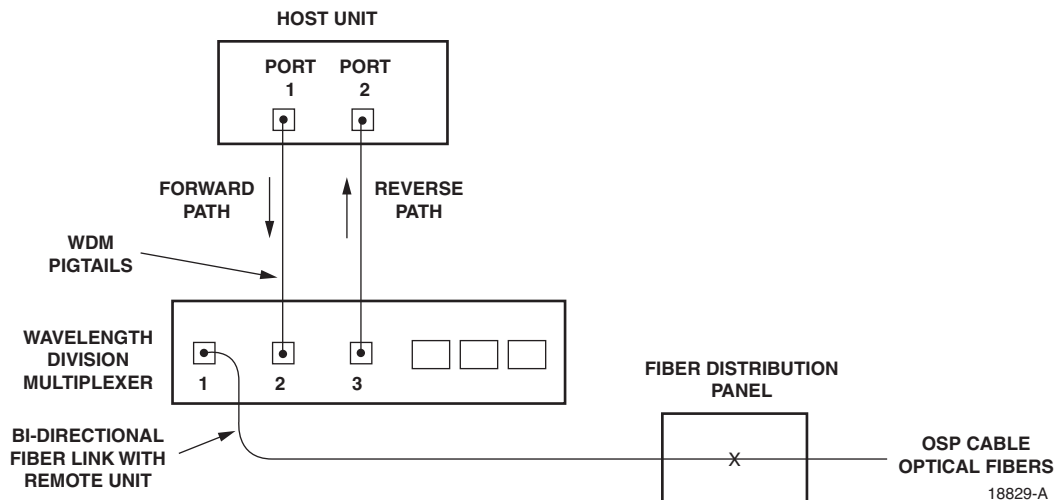

Figure 3-8. Fiber Optic Connections To WDM Module
11. Clean each pigtail connector (follow connector supplier's recommendations) and then insert the connector into the appropriate optical port on the HU as shown in Figure 3-8.